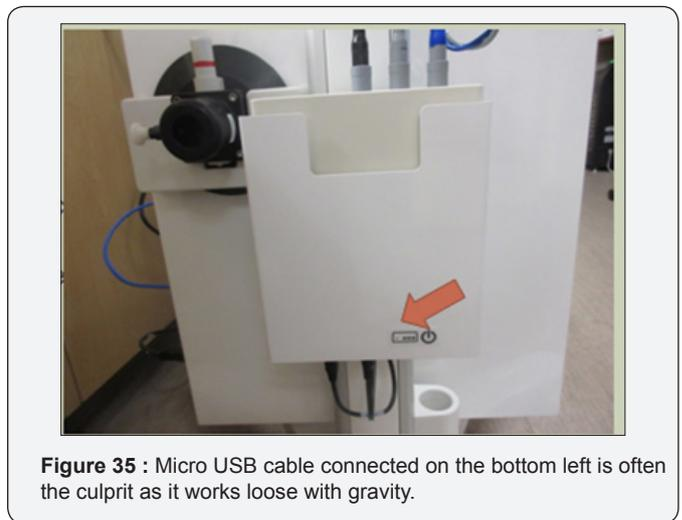

Figure 35 : Micro USB cable connected on the bottom left is often the culprit as it works loose with gravity.
- iv. Micro USB cable connected on the bottom left is often the culprit as it works loose with gravity (Figure 35).